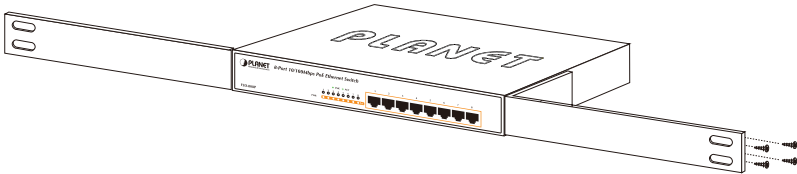

Figure 3-2: Attaching the Brackets to the Switch.
Step2: Attach a rack-mount bracket to each side of the Switch with supplied screws attached to the package. Figure 3-2 shows how to attach brackets to one side of the Switch.